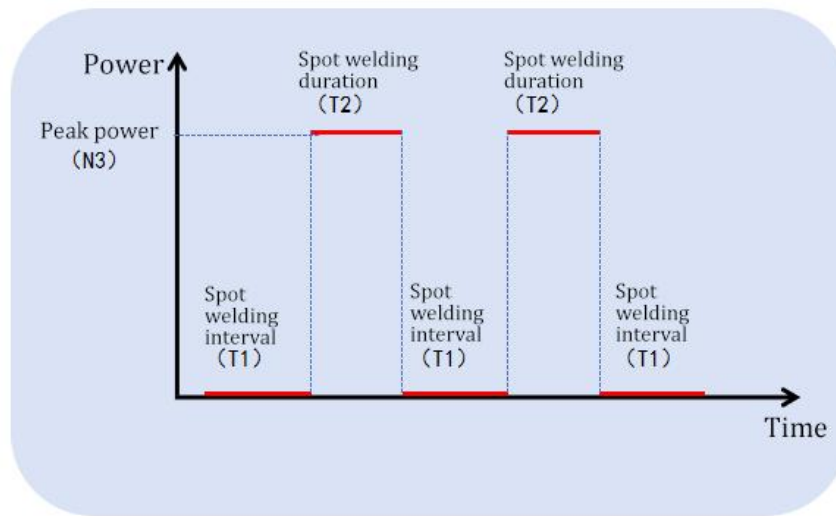

Figure 4.9 Spot welding power time relationship
- ⑧ [temperature threshold]: Maximum 80℃, the value is set to 0, do not detect the temperature alarm.
- ⑨ [alarm level - high / low]: set to low level when not in use, according to the external product settings.
- ⑩ [Spot Welding type - Intermittent / Fish Scale / Single Shot]: [Fish Scale] is suitable for fish scale welding, [Intermittent] is suitable for segmental welding. Single-shot] applies to continuous welding for a short period of time. When [Single Shot] is selected, set the [Spot Welding Duration] to stop the light when the welding is completed, and you need to pull the trigger again to light up again.
- ⑪ [Spot Welding Duration][Spot Welding Interval]: As shown in Fig. 4.9, [T1] does not emit light, [T2] emits light.